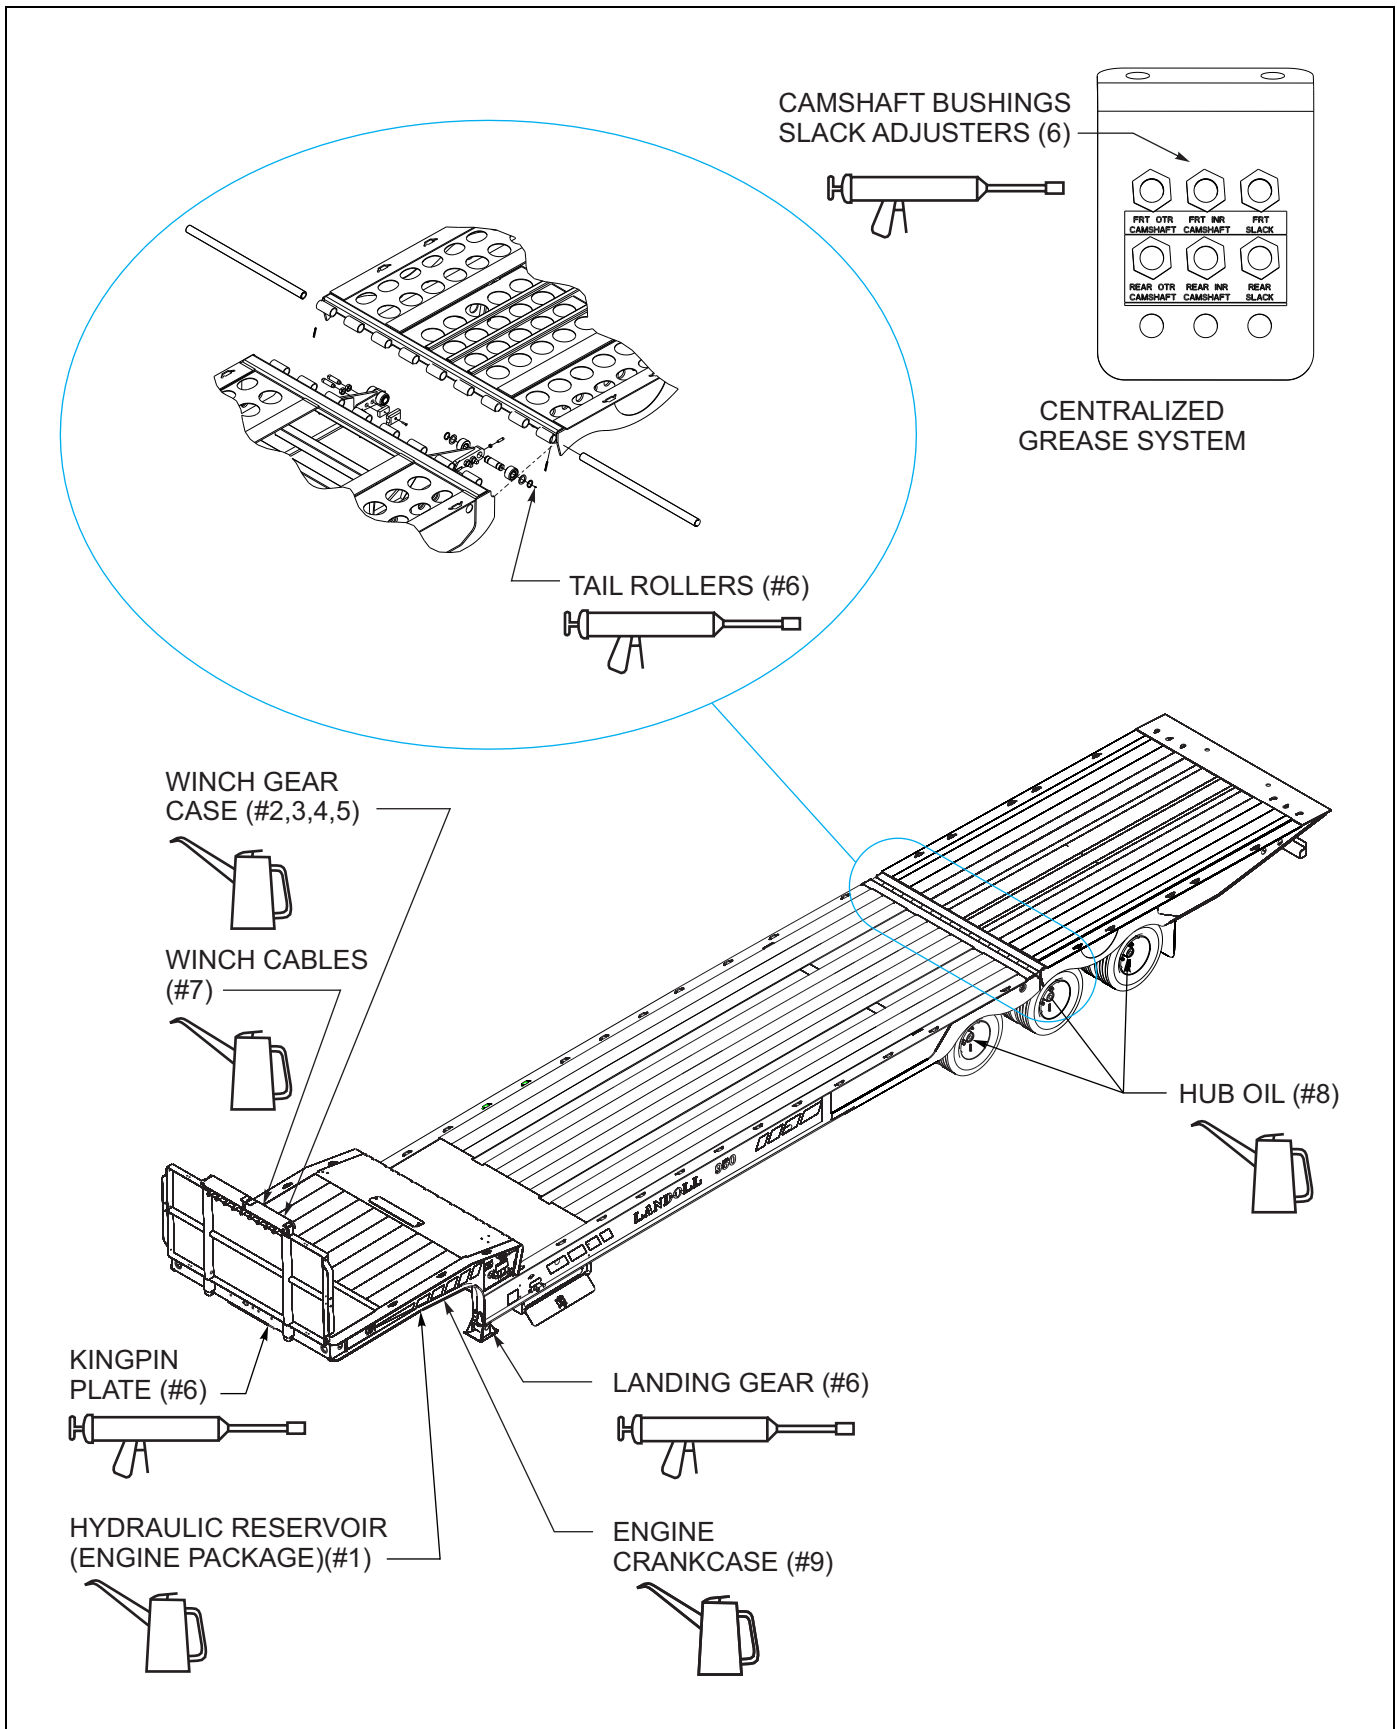

Figure 4-1: Lubrication Points (1 of 2)
**Figure 4-1 and Table 4-1** detail lubrication points and intervals, method of application, and lubricant required, and illustrate the location of each part to be lubricated. During inspections of the trailer, if lubricants are found to be fouled with dirt or sand, those parts should be cleaned with paint thinner, dried, and relubricated immediately. Dirt in a lubricant forms an abrasive compound that will wear parts rapidly.